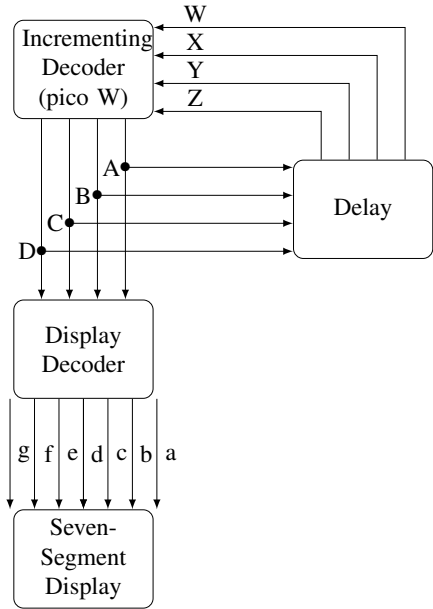

Fig. 1.2
2. Connect the pico W, 7447 and the two 7474 ICs according to Table 1.4 and Fig. 1.2.
to realize the decade counter in Fig. 1.2.